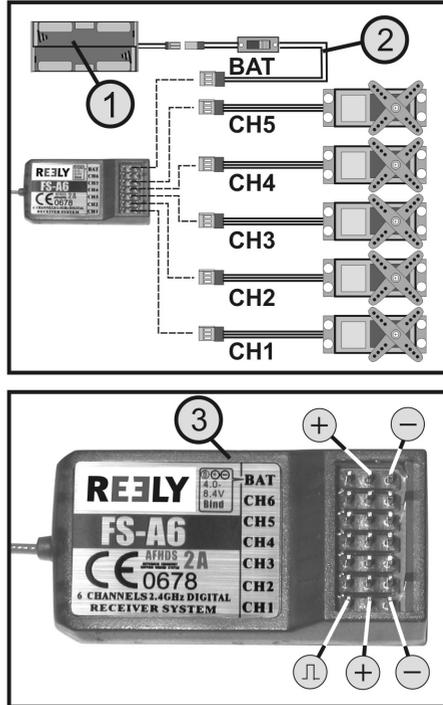

Figure 5
First, switch on the transmitter and then the receiver. If the binding function is working correctly, the red LED indicator in the receiver (see figure 5, item 3) lights up and the five servos react to the movements of the control levers. Verify correct receiver function and then switch the receiver off again.